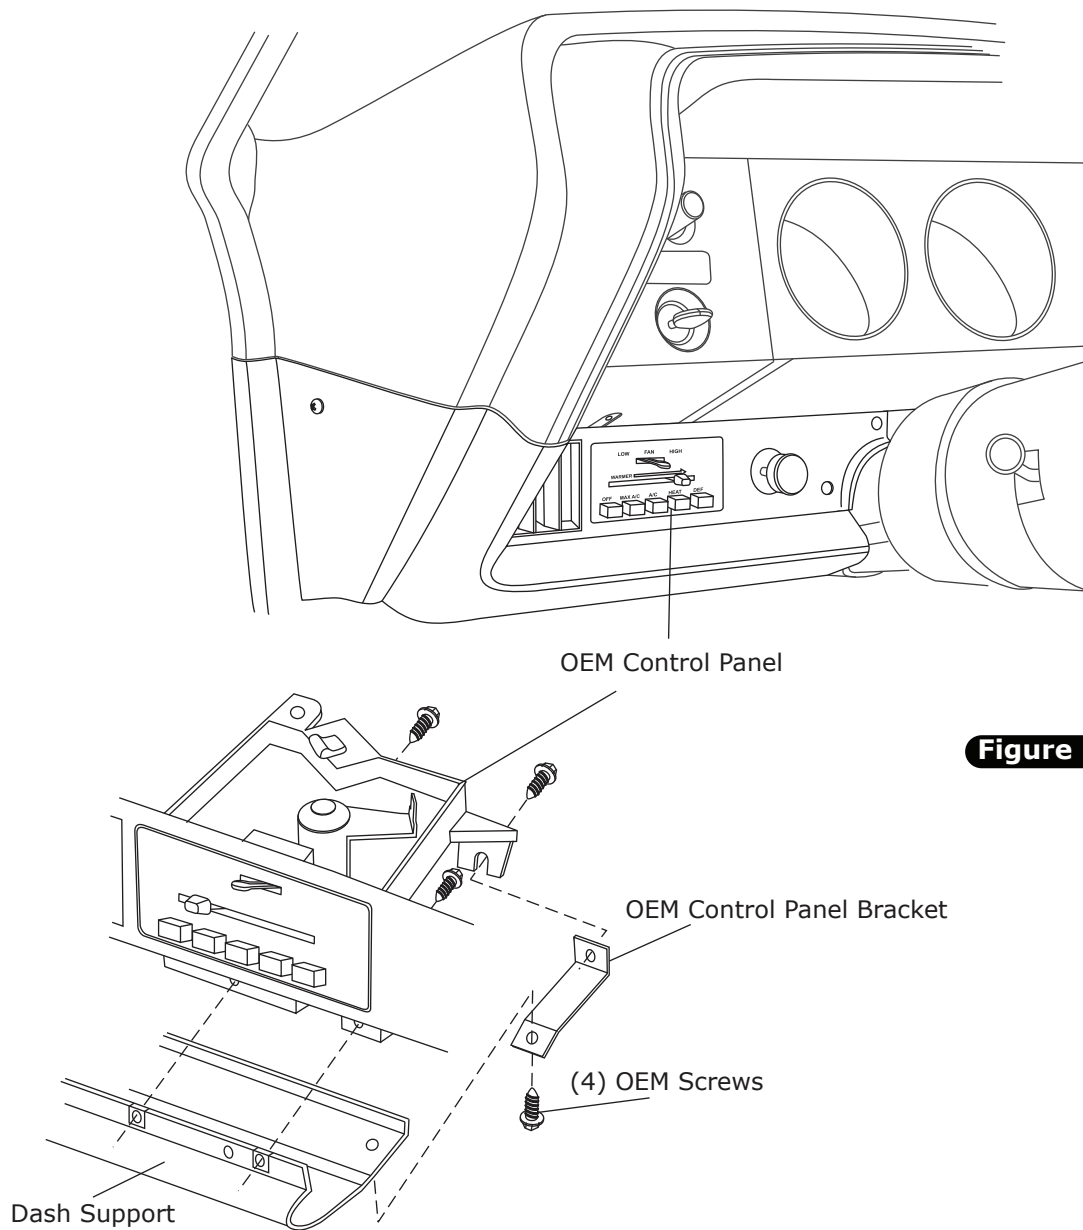

Figure 1
2. Remove OEM control panel (discard) (See Figure 1, below).